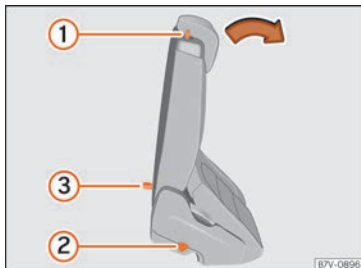

Fig. 137 Second row of seats:: access aid controls.
- Remove any objects located in the footwell of the second row of seats, where applicable »» ❶.
- Push the lever »» Fig. 137 ❶ forwards and fold the backrest of the rear seat. This seat folds forward completely »» ❷ and can still be moved further forward.
- Always take care when entering and leaving the vehicle »» ❸.
- Lift the backrest of the rear seat in an upright position. The entire seat folds backwards »» ❸.
- Make sure that the rear seat is securely engaged so that the seat belts can provide proper protection in the rear seats. The red mark »» Fig. 137 ❷ should no longer be visible »» ❹ in **Folding the rear seats down as a cargo surface on page 144.**
If the lever »» Fig. 137 ❶ does not work, e.g. after an accident, the seats on the second row can be folded forwards from the third row to allow vehicle occupants of the third row of seats to get out of the vehicle »» ❸.
- Pull the handle »» Fig. 137 ❸ back and fold the backrest of the rear seat. The complete rear seat folds forward »» ❹.
- A red mark on the side of the seat »» Fig. 137 ② indicates that the seat backrest is not engaged. The mark is no longer visible when it is correctly engaged.